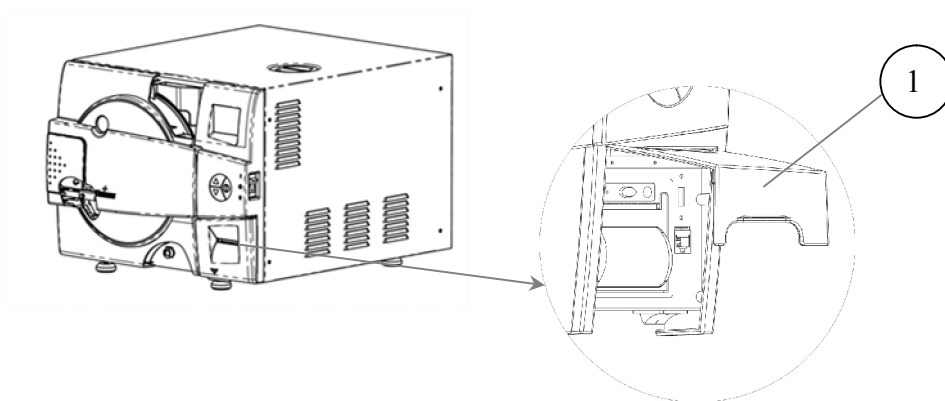

Fig. 2
1. Open the printer's cover door (1) by pulling it up (see Fig. 2).